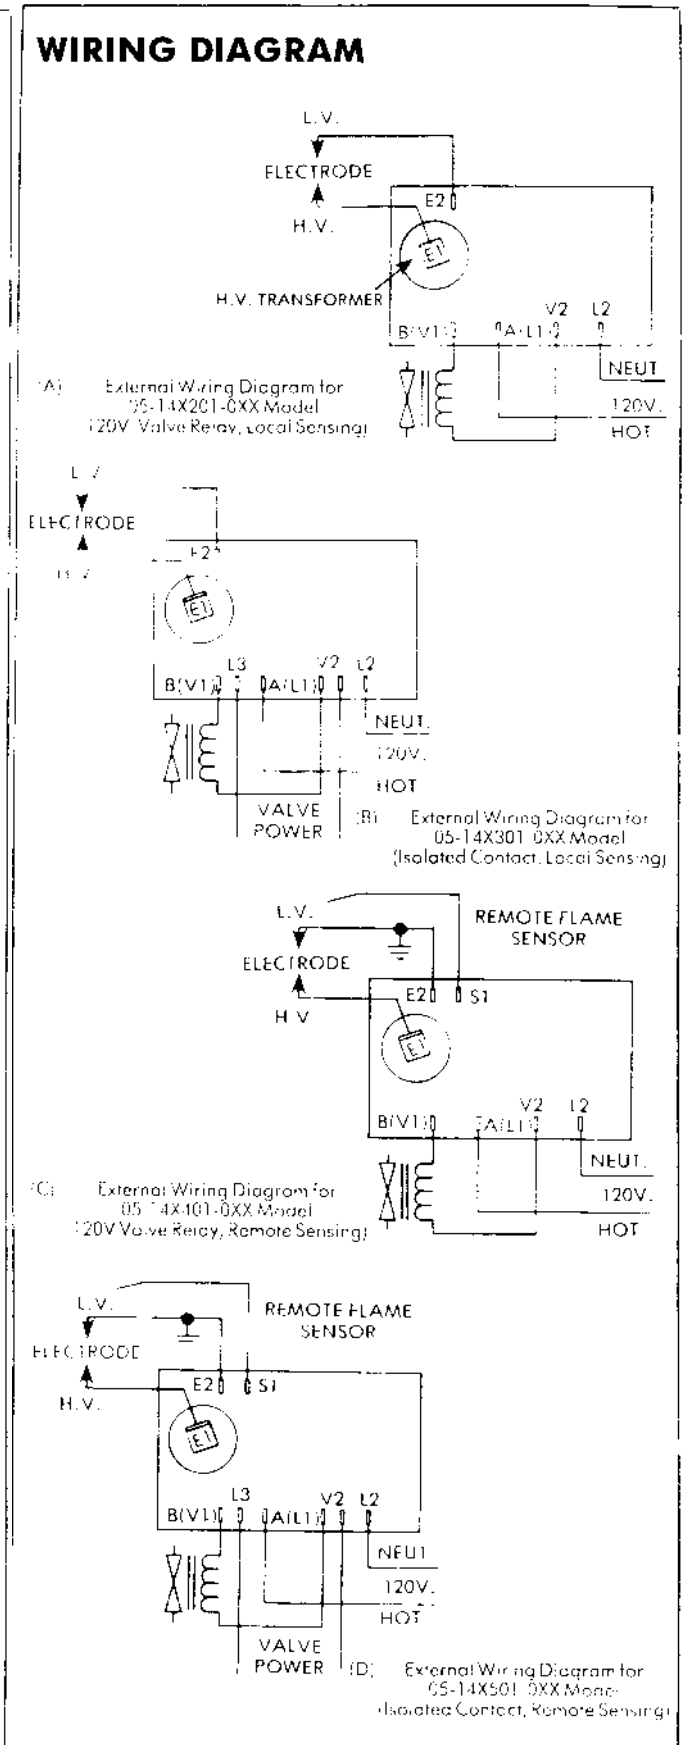

Figure 3
3. Connect the electrode lead wires to the control module. See Figure 3. Make